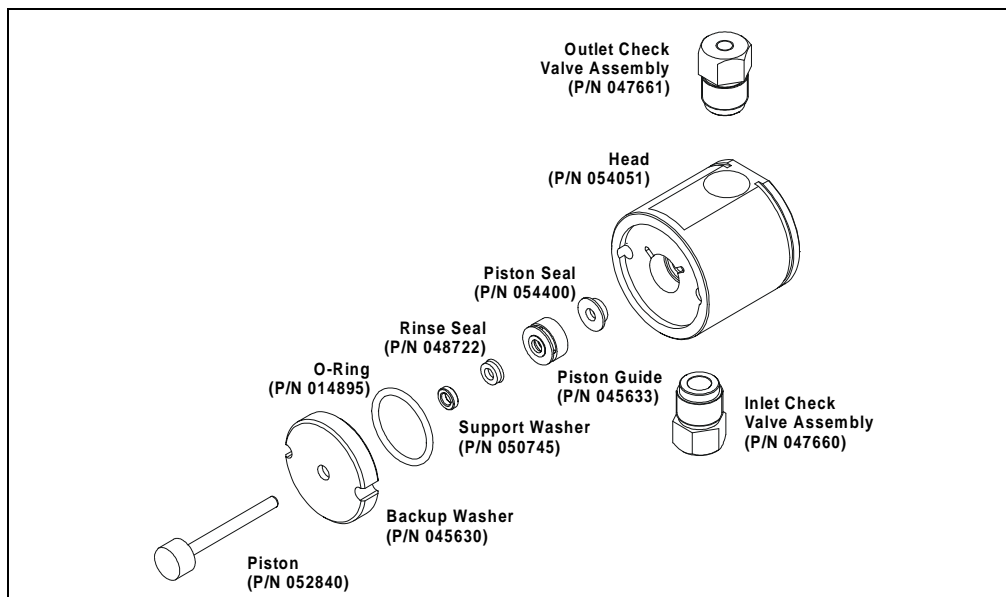
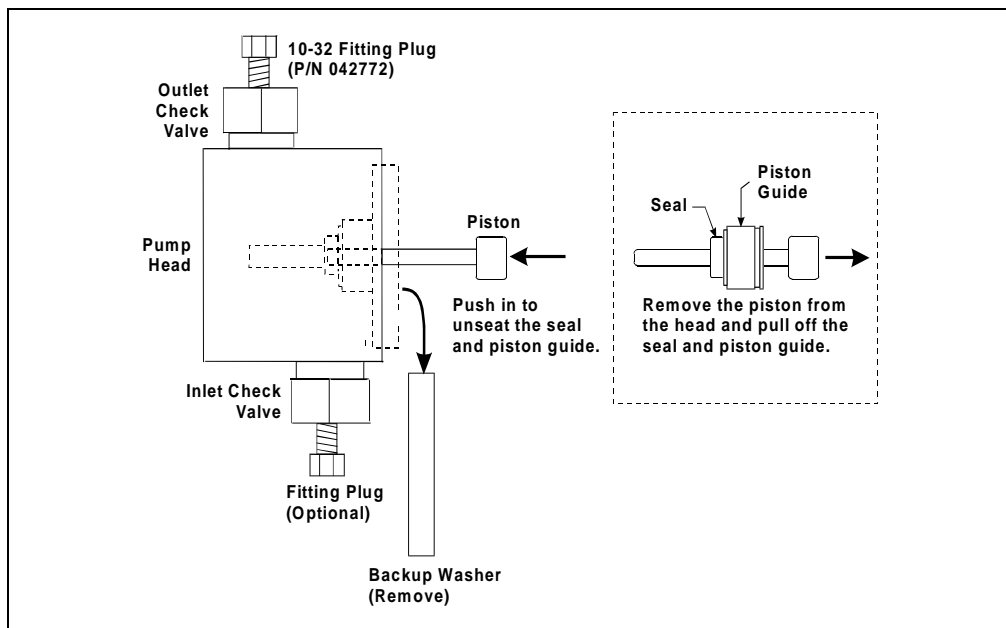

Figure 5-3. Pump Head Assembly
Figure 5-4. Removing the Piston Seal
5. Place the head (front end down) on a clean work surface and lift off the backup washer to expose the piston guide (see Figure 5-3 and Figure 5-4).
- b. Reinsert the piston approximately 1/8 inch into the seal (see Figure 5-4).